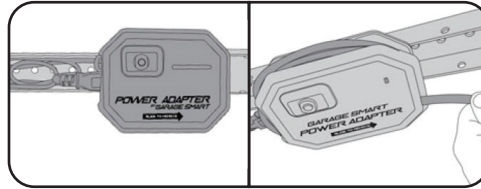

fig 4.5
- You can also organize cables by winding the excess cable around the Power Adapter housing or placing the cable in the channel of the Smart Track. (fig 4.5)